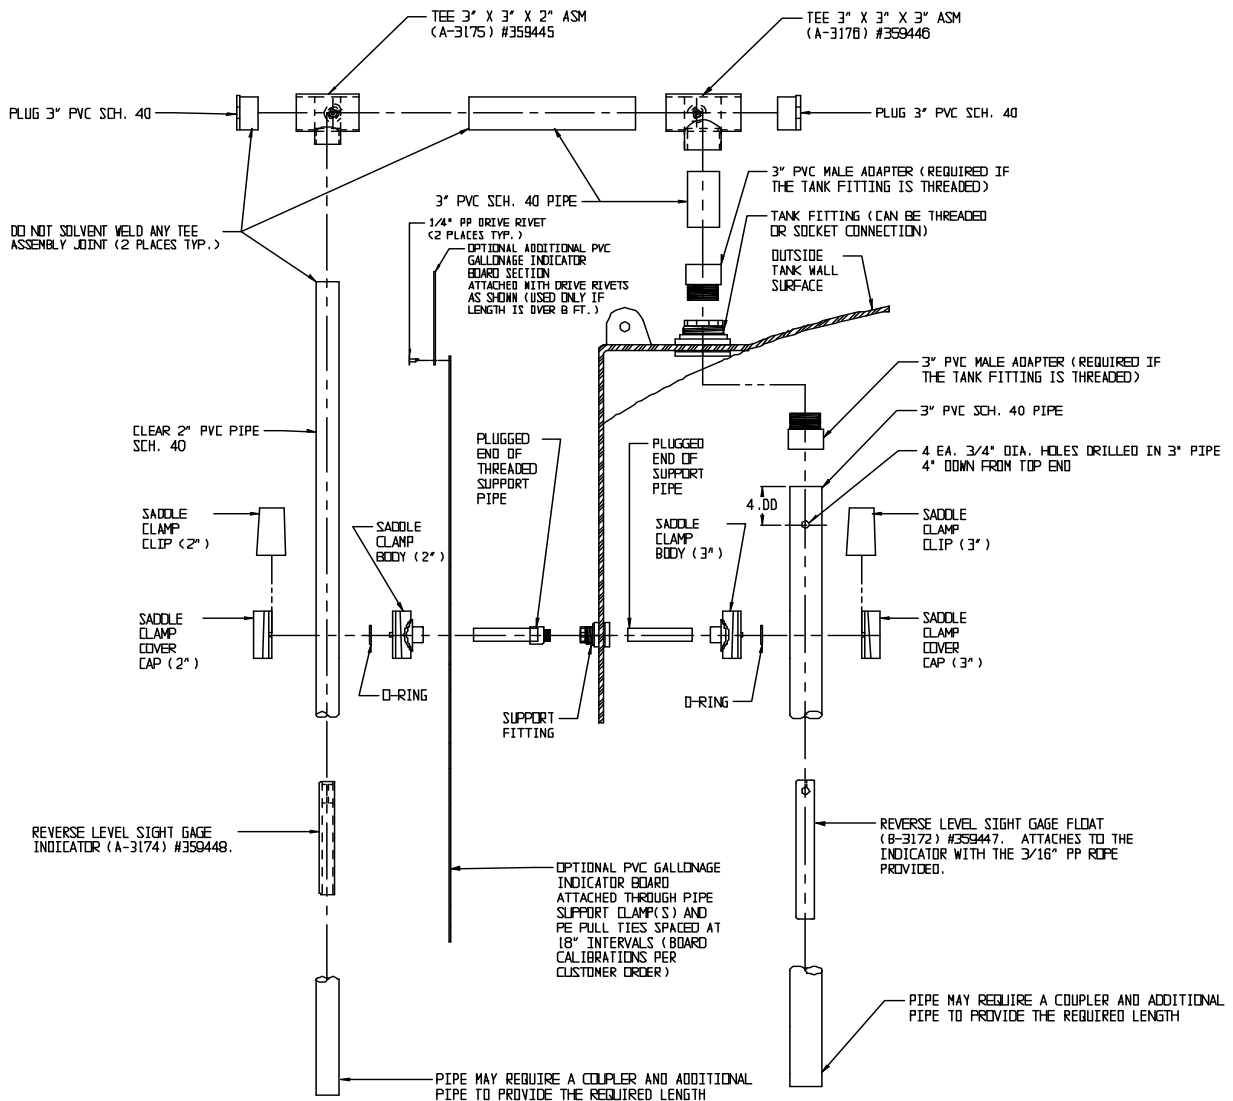

Figure 7.7
7.7.2 Assemble the piping loosely using Figure 7.7, the guidelines detailed below, and the customer approved tank drawing to ensure all parts are present and cut to length. As soon as all parts have been checked, assemble the parts with solvent weld cement and/or threaded connections as shown in Figure 7.7. NOTE - Do not use solvent weld cement on the outside joints indicated in Figure 7.7. SII recommends periodic inspection of the rollers in the tee assemblies and the rope to ensure proper operation of the gage. If it is a requirement to seal these joints, a silicone based caulking should be sufficient.
7.7.3 Assemble and install the support structures as shown in Figure 7.7 (without the saddle clamp cover caps and clips). Make sure the support clamp orientation is correct (with the small width of the wedge toward the top of the tank) and that the plugged support pipes are installed with the plugged end as close to the support fitting as possible. Make sure that the indicator board has been installed over the outer pipe supports as shown in Figure 7.7. Assemble and install piping as per the customer approved drawing. As piping is being installed on the tank, lock it in place with the saddle clamp cover caps and clips provided (make sure that the sealing o-ring is in the proper position as the pipe is positioned into the saddle support body). Seal all thread-
ed pipe connections with Teflon pipe sealant and connect solvent weld sockets with the correct solvent cement (except the joints as noted in Figure 7.7).